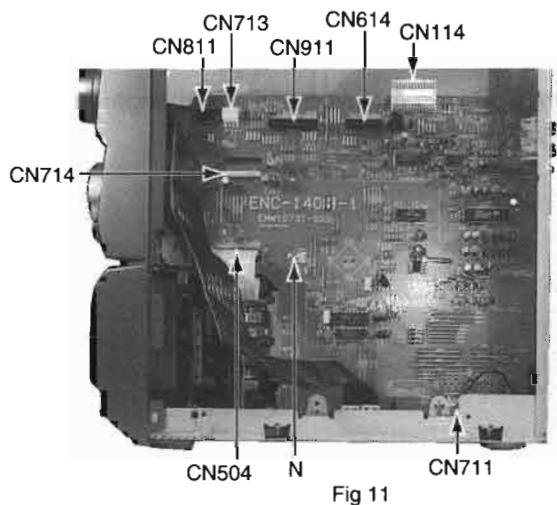

Fig 11
3. Disconnect the connectors and flat wires. (See Fig.11) (CN811.CN713.CN911.CN614.CN114.CN714.CN504)
4. The connector CN711 is extracted from power supply P.C. Board. (See Fig.11)
5. One screw N is remove and main P.C. Board is removed. (See Fig.11)